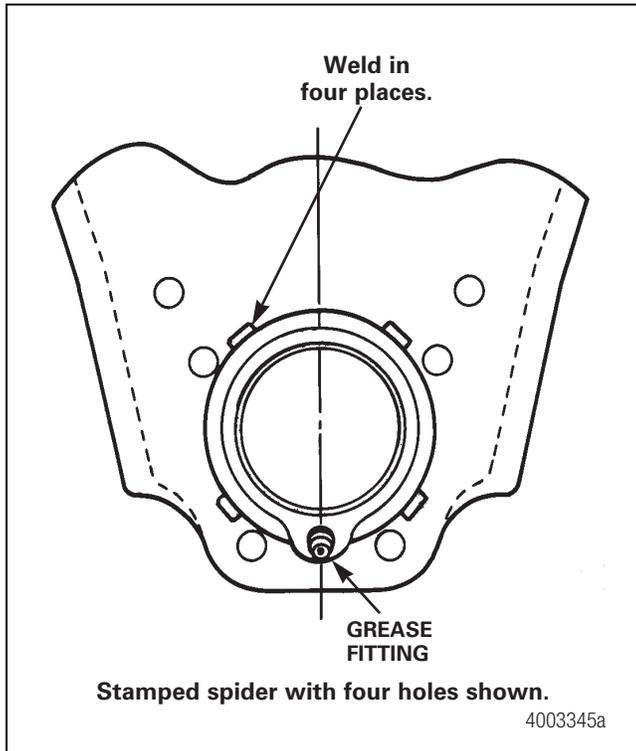

Figure 11.64
4. Press a new retainer into the spider with a C-clamp. Figure 11.63. Verify that the grease fitting is positioned correctly. Figure 11.64.
5. Weld the retainer in four places using AWS E70S3 or E70S6 electrodes. Each weld should have a 0.1875-inch (4.76 mm) fillet and be 0.375-inch (9.52 mm) long. Figure 11.64.